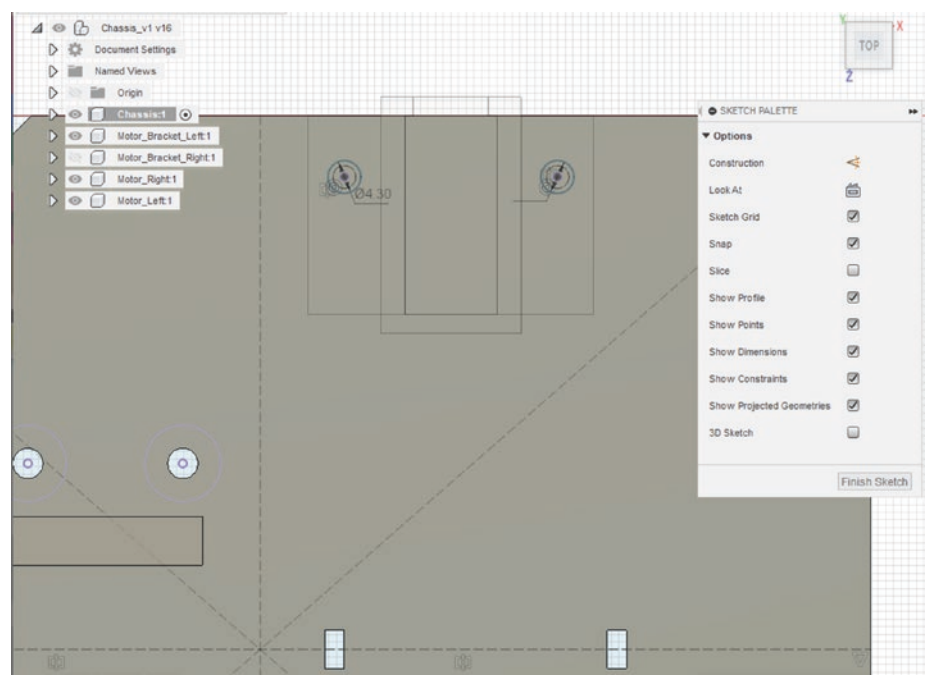

Figure 6-69. Create the holes for the chassis that will hold the motor bracket
41. On the top of the chassis, create two 4.3mm holes where the motor bracket wing holes are. You can use the sketch of the motor bracket; just make sure you select the top of the chassis as your plane; otherwise, you may be drawing on the top of the motor bracket which will not work. See Figure 6-69.